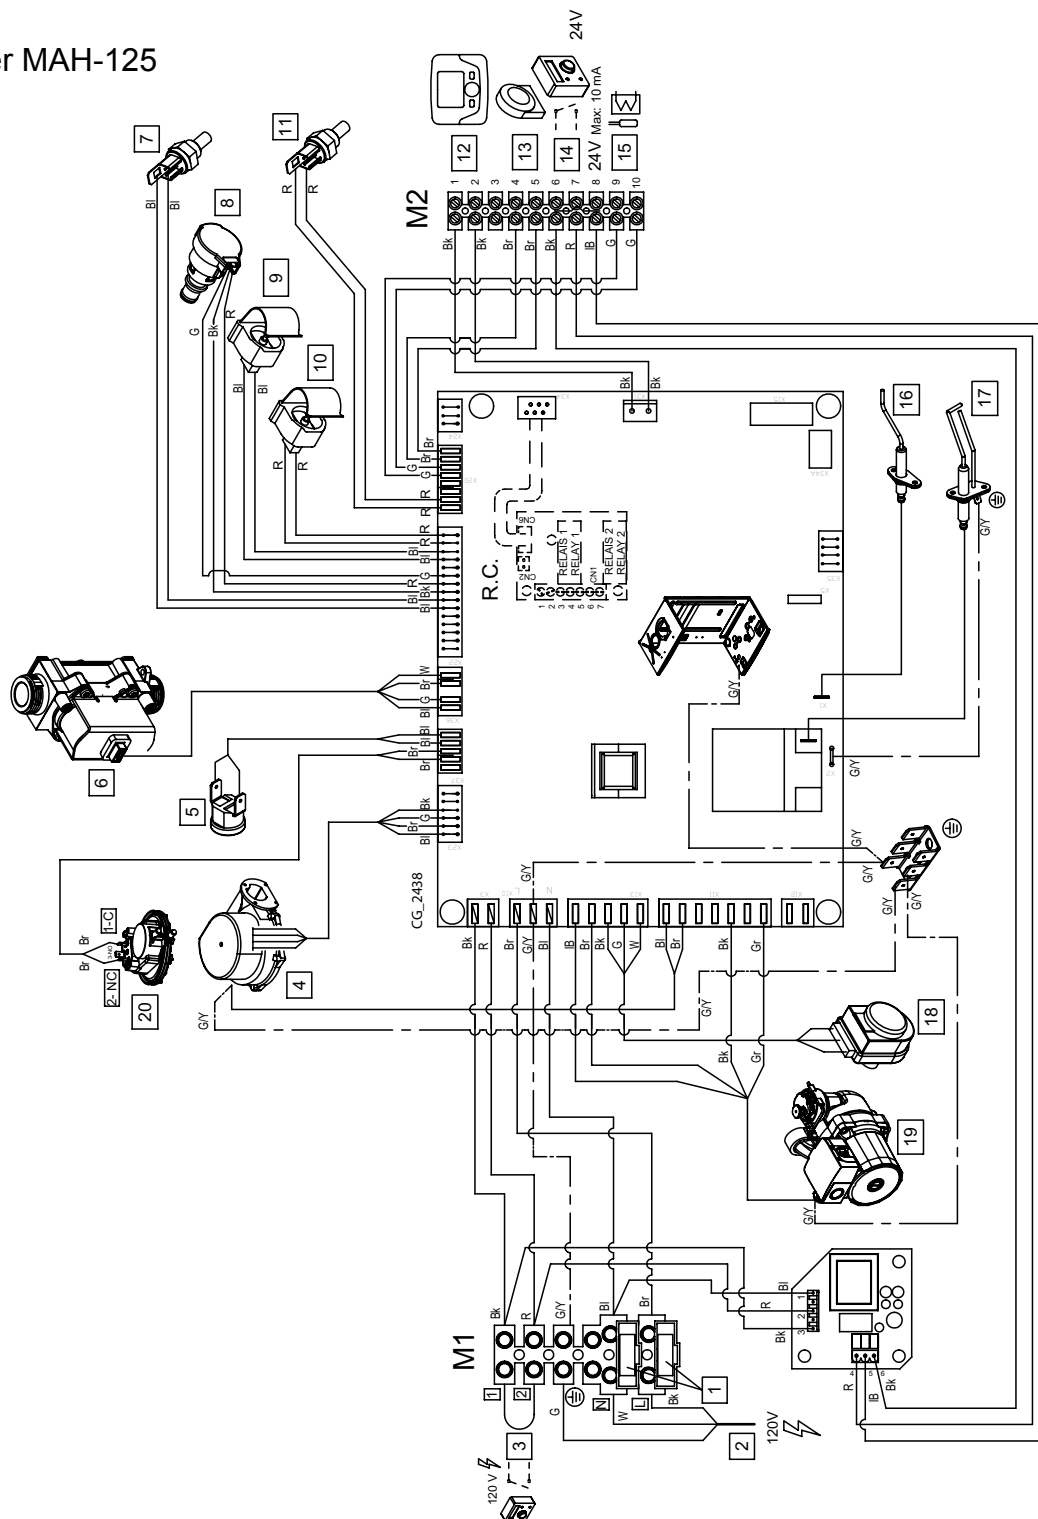

Fig. 1 -Two Pipe Roof Vent
- Abandoned unused masonry chimney may be used as chaseway for combustion air and vent. Both combustion air and vent pipe must exit above top of chimney with clearances as shown in figure 1.